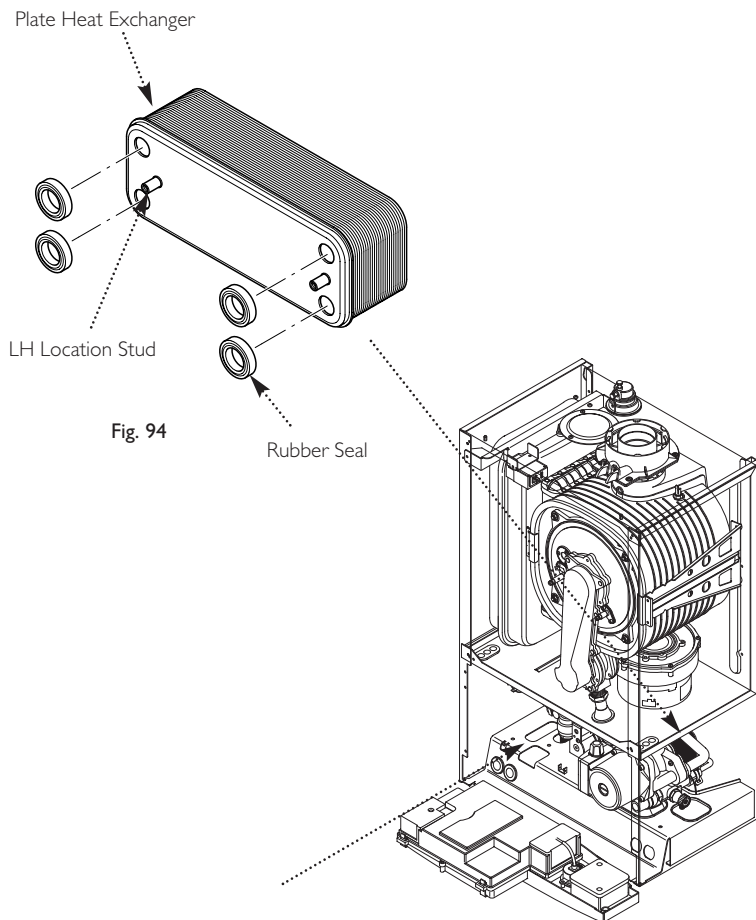

Fig. 94
14.18 Plate Heat Exchanger (Fig. 94)